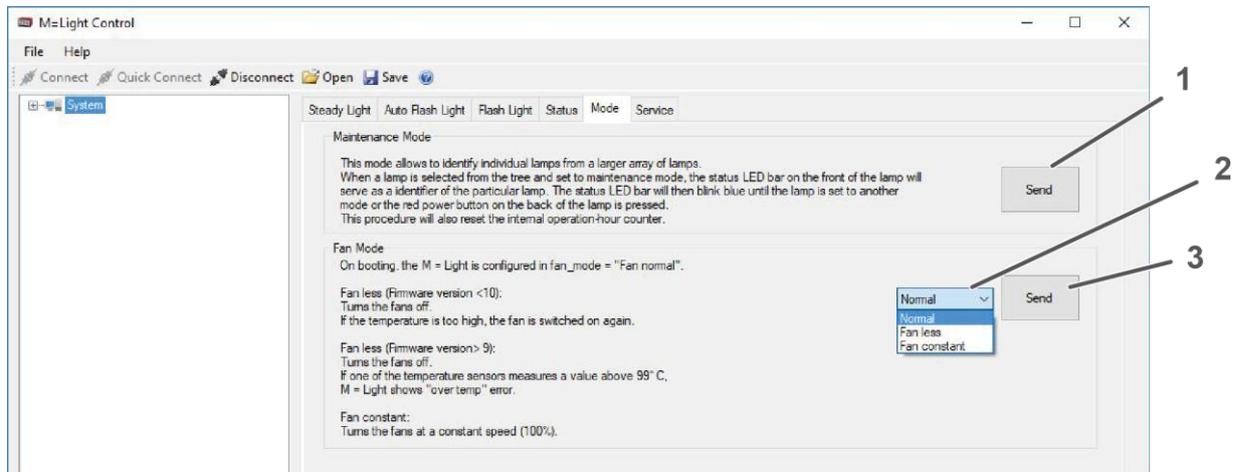

Figure 57: Tab mode
- Go to the Mode tab in the field Maintenance Mode and press Send (Figure 57, Page 65).